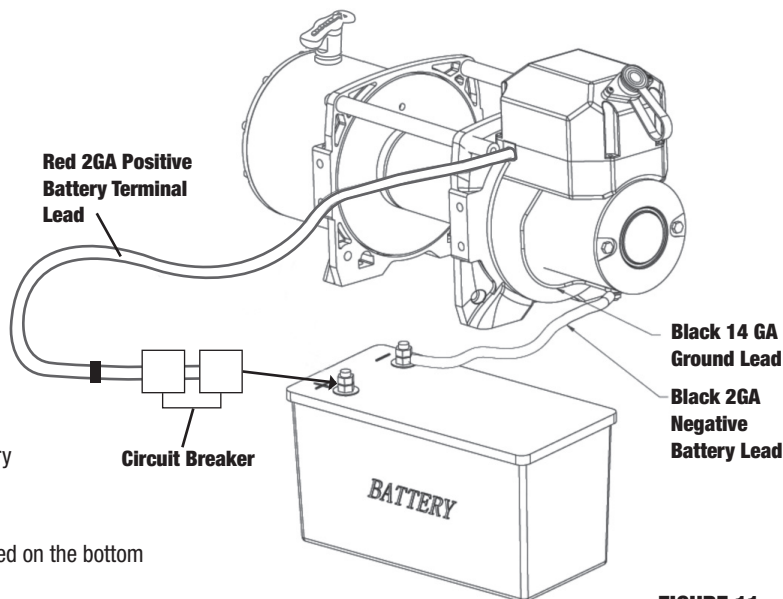

FIGURE 11
Step 2 Follow electrical connection diagram (FIGURE 11). Bolt the circuit breaker to the terminal end of the Red 2 GA battery lead that is factory connected to the sealed solenoid switching pack. Now connect the circuit breaker to the positive battery terminal.